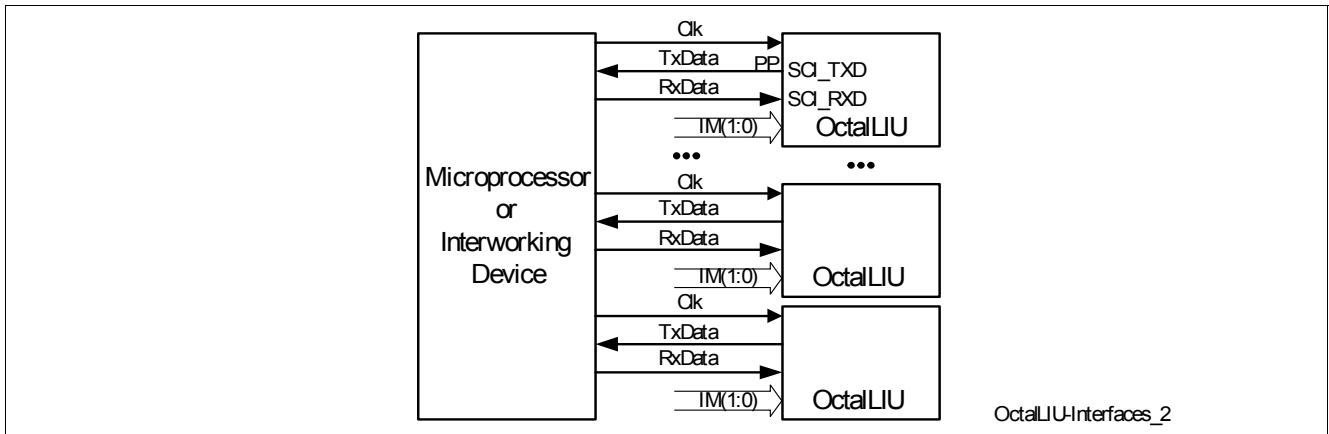
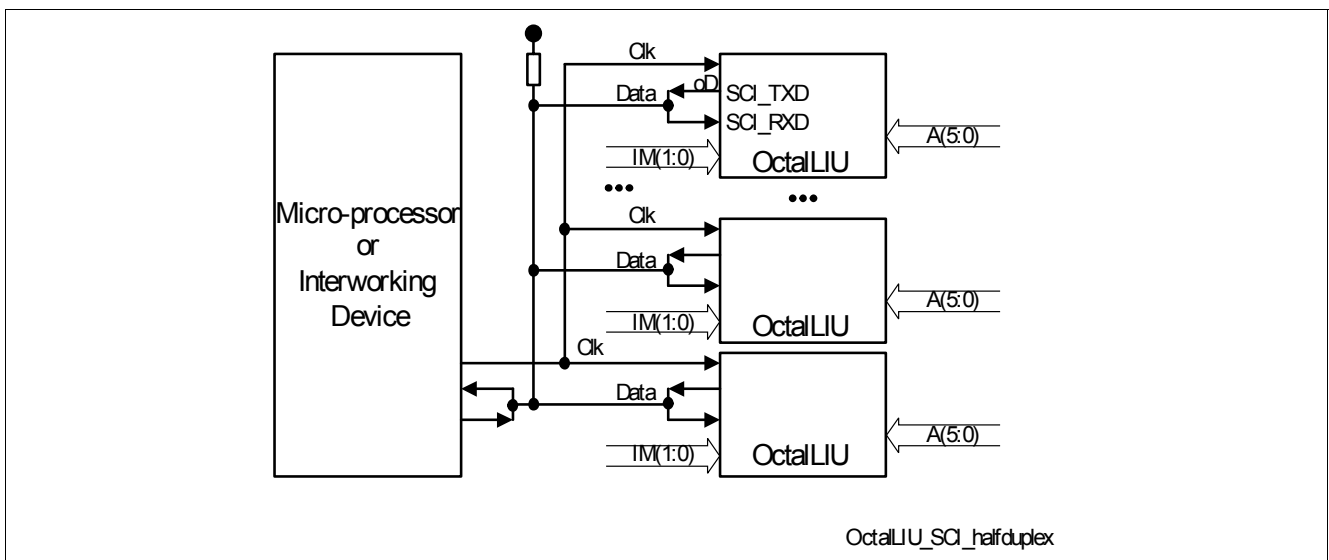

Figure 6 SCI Interface Application with Point To Point Connections
Figure 7 SCI Interface Application with Multipoint To Multipoint Connection
Figure 6 shows a first application using the SCI interfaces of some OctaLIU™s where point to point full duplex connections are realized between every OctaLIU™ and the micro controller. Here the data out pins of the SCI interfaces (SCI_TXD) of the OctaLIU™s must be configured as push-pull (PP), see configuration register bit PP in Table 8.
Figure 7 shows an application with Multipoint to multipoint connections between the OctaLIU™s and the micro controller (half duplex). Here the data out pin of the SCI interfaces (SCI_TXD) of all OctaLIU™s must be configured as an open Drain (oD), see configuration register bit PP in Table 8. The data out and data in pins (SCI_RXD, SCI_TXD) of each OctaLIU™ are connected together to form a common data line. Together with a common pull up resistor for the data line, all open Drain data out pins are building a wired And.
- Arbitration always made with LAPD (only SCI applications like in Figure 6 and Figure 7 are possible), bit ARB = '0_B'.